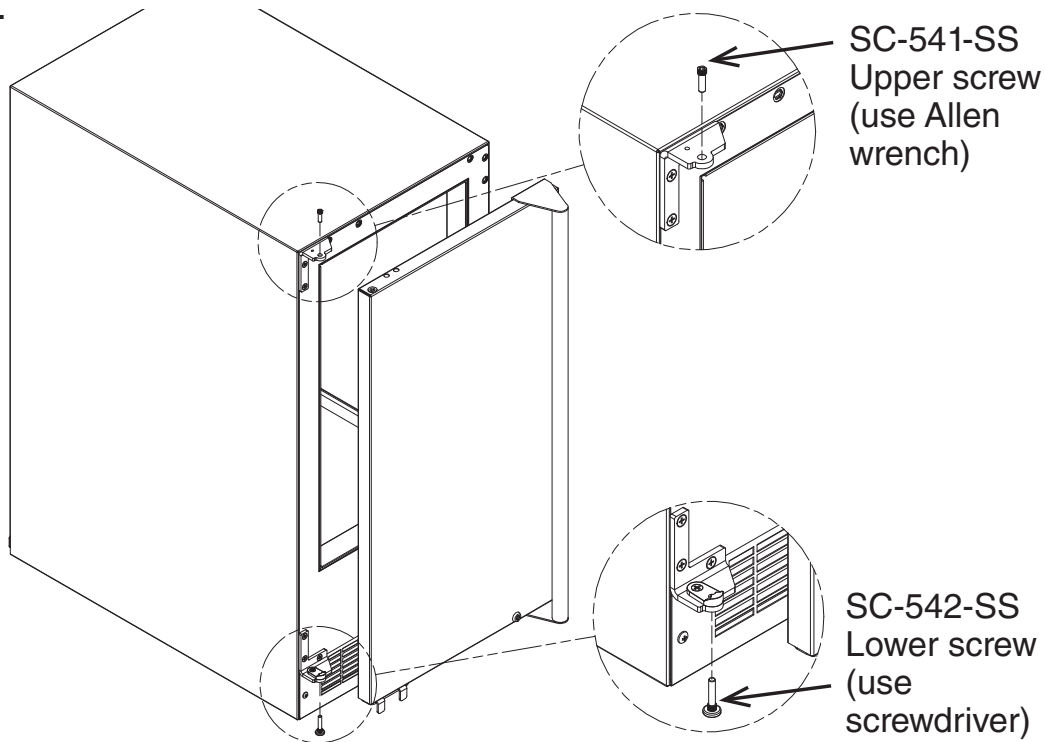

FIG. 12
**Step 10.** Rotate the door 180° and attach it to the cabinet using the SC-541-SS upper screw and the SC-542-SS lower screw. See figure 12.